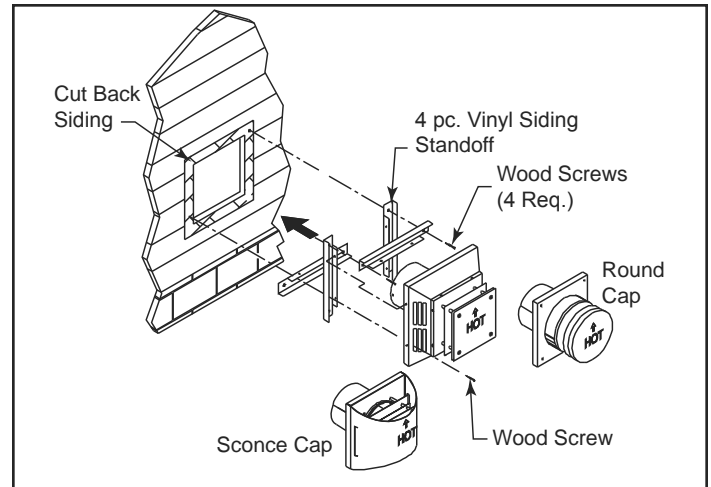
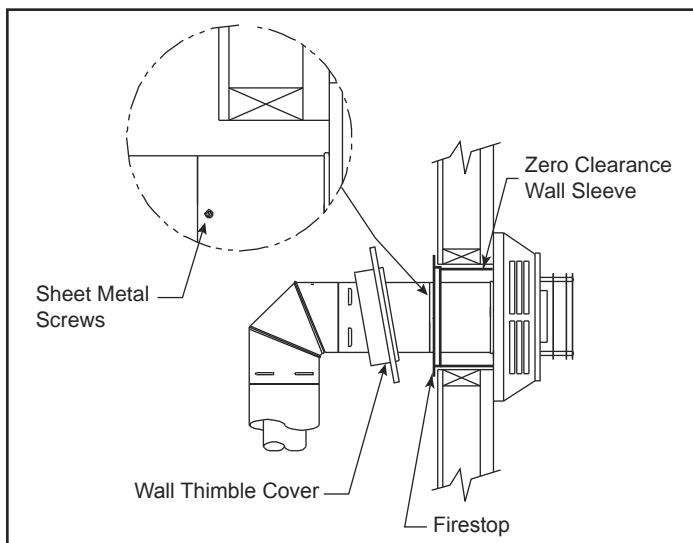

Figure 28
Figure 29
prevents excessive heat from possibly melting the vinyl siding material. Vinyl siding standoffs are not required with snorkels. For vinyl wall installations a 4-piece vinyl siding standoff should be assembled and installed between the horizontal termination cap and the exterior wall, Figure 28. The vinyl should be cut away to the outer edges of the assembled standoff.
IMPORTANT: You must attach the four (4) pieces of the new vinyl siding standoff to the horizontal termination cap in specific order to ensure a weather tight fit. Loosely assemble the four parts, in order, around the base of the horizontal termination cap. Place the first of four pieces along the upper edge of the cap, then using two (2) screws per side, secure each piece to the pre-drilled holes along both sides of the cap, finally, attach the final piece to the bottom edge of the cap. Tighten all screws and mount cap, with all four (4) pieces attached, directly onto the wall with the four (4) 2-1/2" (64 mm) screws provided, Figure 28.
- When penetrating through stucco wall, install the counter flashing. The counter flashing allows stucco, or other materials, to be finished directly to the sides of the termination cap. First attach the counter flashing to the base of the horizontal termination cap with the small screws provided, then mount entire assembly onto the wall with the four (4) 2-1/2" (64 mm) wood screws provided.
Step 5 - Before connecting your horizontal pipe sections to the horizontal termination cap, slide the wall thimble cover over the pipe section nearest the interior side of wall, Figure 29.
Step 6 - Slide the appliance and vent assembly towards the wall, carefully inserting the pipe section into the cap assembly. It is important the pipe section extends into the back of the termination cap with a minimum overlap of 1-1/4" (32 mm). Use the two (2) sheet metal screws provided to secure the pipe section to the back of the termination cap. The wall thimble cover will cover the screw heads, Figure 29.